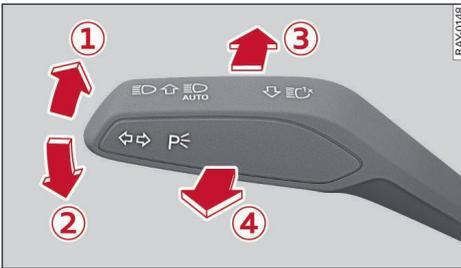

Fig. 32 Control lever: Switching light functions on/off
- Briefly press the lever forwards ③ \Rightarrow page 44, Fig. 32 to activate the main beam assist. The indicator lamp  will light up in the instrument cluster display and the main beams will be activated/deactivated automatically. The indicator lamp  lights up when the main beams are switched on.
- ▶ To activate the main beams manually, briefly press the lever forwards ③ ⇒ page 44, Fig. 32. The indicator lamp  will light up.
- ▶ To deactivate the main beams manually, pull the lever towards you ④ ⇒ page 44, Fig. 32. The main beam assist will be deactivated.
- ▶ To flash the headlights, pull the lever towards you ④ ⇒ page 44, Fig. 32. The main beam assist function will remain activated if the headlights were dipped.